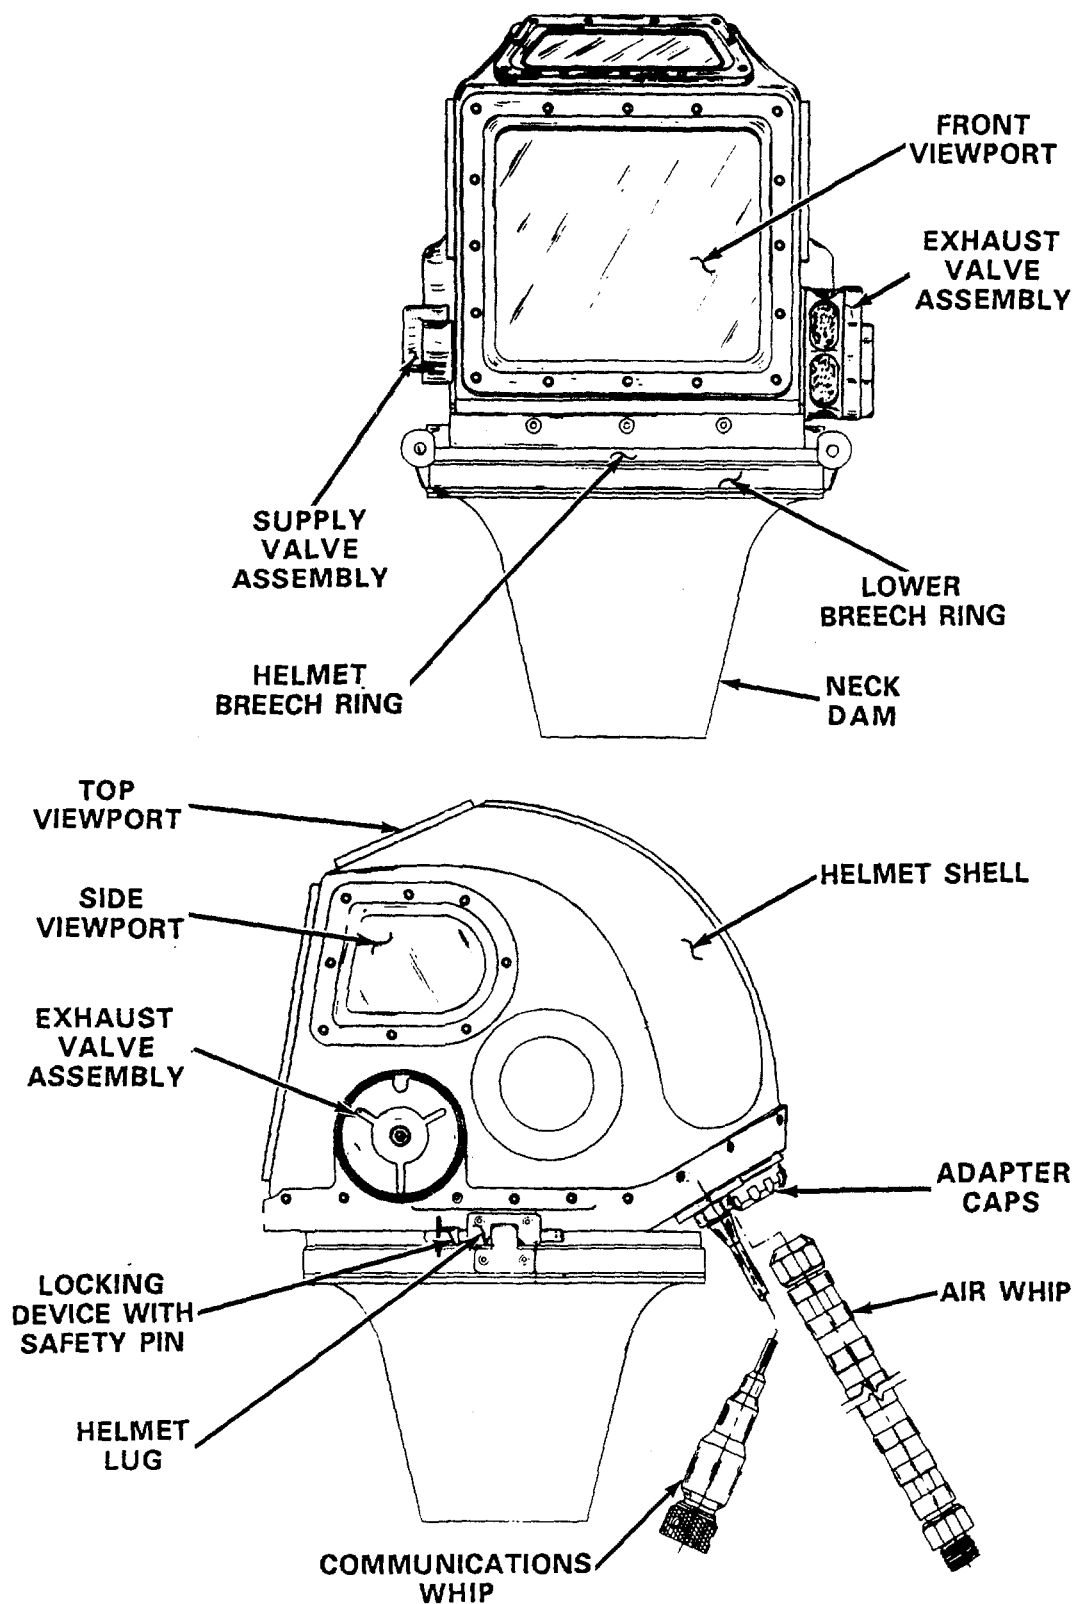

Figure 1-4. MK12 Helmet Assembly.
b. Helmet Assembly (figure 1-4). The helmet assembly consists of the shell and base together with the components and parts affixed, including the lower breech ring assembly.
(1) The shell is laid up with fiberglass cloth and polyester resin for a strong, light, impact-resistant structure. The shell is coated with a highly visible yellow gel coat to provide the best underwater definition. A cast lead weight is cut to fit into the crown of the helmet, then laminated with fiberglass and resin. The weight is sized and located as to make the helmet neutral in buoyancy and to counterbalance the weight of the base and breech rings.
(2) There are two breech rings in the helmet mating assembly; the helmet breech ring and the lower breech ring. The helmet breech ring is secured to the base with machine screws, with an preformed packing forming the seal between the base and helmet breech ring. The lower breech ring assembly consists of the lower breech ring, the neckdam or drysuit neckpiece, the retainer, two locking device lugs, and three jocking harness brackets. The neckdam is sealed by compression with a neoprene material and has a highly corrosion-resistant finish. The helmet assembly is secured to the lower breech ring assembly by two locking device assemblies, one on each side. Each locking device consists of a helmet lug mounted on the helmet base which mates with a lug mounted on the lower breech ring. A locking device w/safety pin, locks the two lugs together and secures the helmet.
(3) There are four viewport assemblies in the helmet which provide visibility comparable to that of Self Contained Underwater Breathing Apparatus (SCUBA). A groove is molded into each viewport recess to receive a shaped-to-fit preformed packing. A retainer is placed over each lexan viewport and secured into place with socket head cap screws that mate with female threaded inserts fitted into the helmet shell.